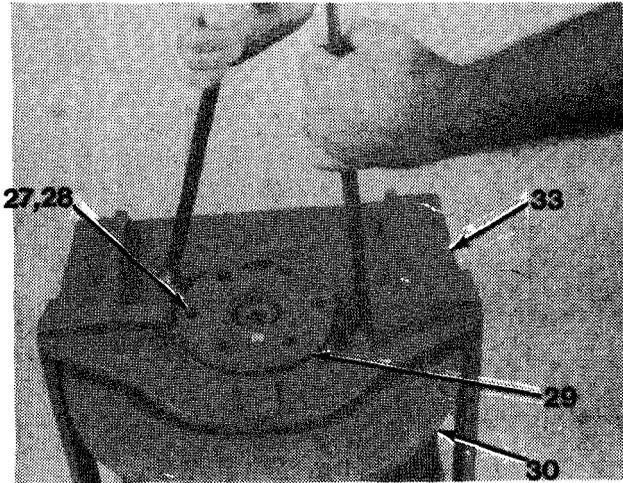
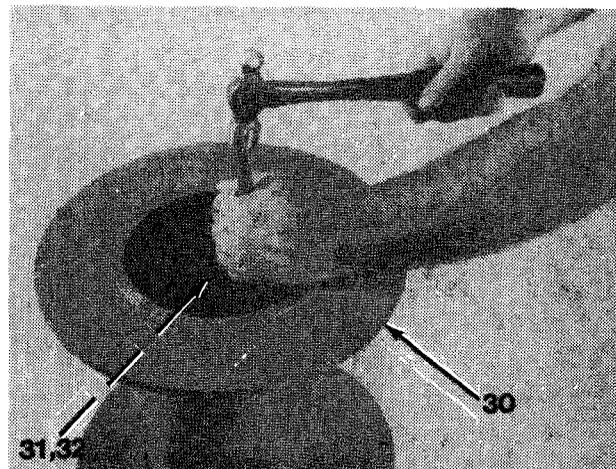

Figure 16-13
Figure 16-14
19. Remove six cap screws (27), lockwashers (28) and bearing support (29, Figure 16-13).
20. Remove drum (30) from base (33).
21. Remove seal (31) and bearing (32) from support end of drum (30, Figure 16-14).